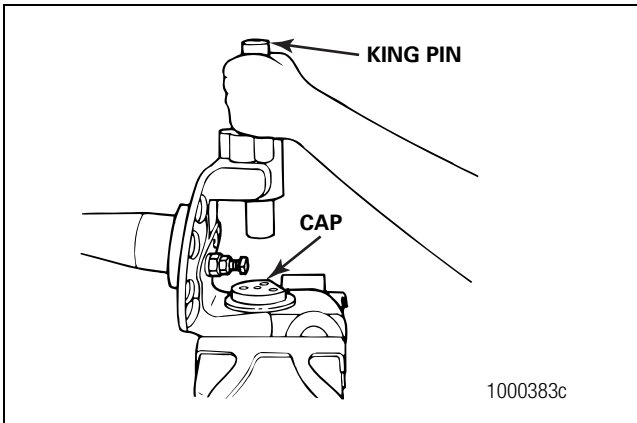

Figure 6.9
3. Place the end cap for the knuckle on top of the seal. Slide the king pin through the opposite knuckle bore. Use the king pin to install the seal. Figure 6.9.